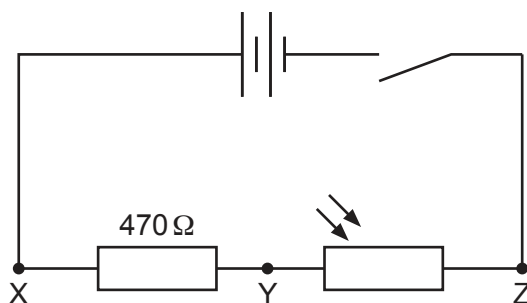

Fig. 2.1
- (vii) Sufficient connecting leads to set up the circuit shown in Fig. 2.1.
- 1 The supervisor must set up the circuit shown in Fig. 2.1 for the candidates in advance of the examination. The experiment should take place in a well-lit area.
The circuit must be restored to its original state, as shown in Fig. 2.1, with the switch open and the voltmeter removed and placed by the side of the circuit.